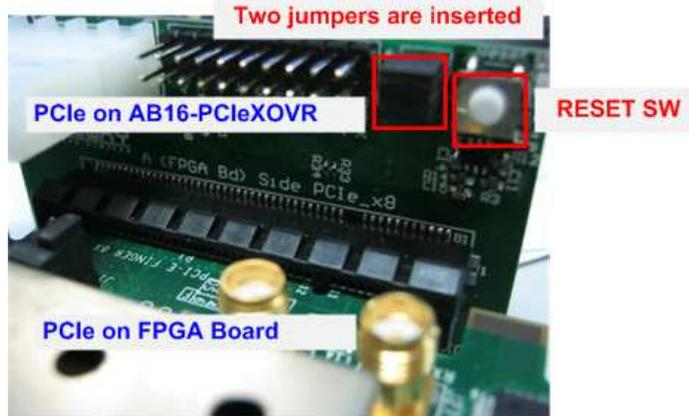

Figure 2-4 Connect PCIe connector between AB16 and FPGA board
- 4) Connect A Side of PCIe connector on AB16-PCIeXOVR board to PCIe connector on FPGA board, as shown in Figure 2-4. Also, please confirm that two mini jumpers are inserted at J5 connector on AB16.